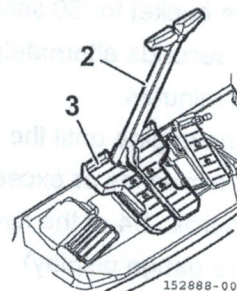

Fig. 3-24
4. Operate the left and right travel levers (Fig. 3-24, 2) or pedals (Fig. 3-24, 3) as follows:
- Operating the travel lever (Fig. 3-24, 2) or travel pedal (Fig. 3-24, 3) forward moves the machine forward, and operating backward moves the machine backward.
- Operating the travel lever (Fig. 3-24, 2) or travel pedal (Fig. 3-24, 3) backward moves the machine forward, and operating forward moves the machine backward.
5. Returning the travel lever (Fig. 3-24, 2) or travel pedal (Fig. 3-24, 3) to the neutral position stops traveling.